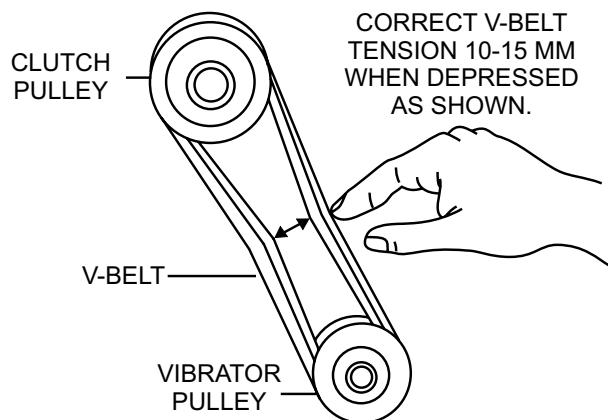

Figure 10. V-Belt Tension
1. The V-belt tension is proper if the V-belt bends 10 to 15 mm (Figure 10) when depressed with finger at midway between the clutch and vibrator pulleys.
2. Place the engine **ON/OFF** switch (Figure 10) in the **OFF** position.